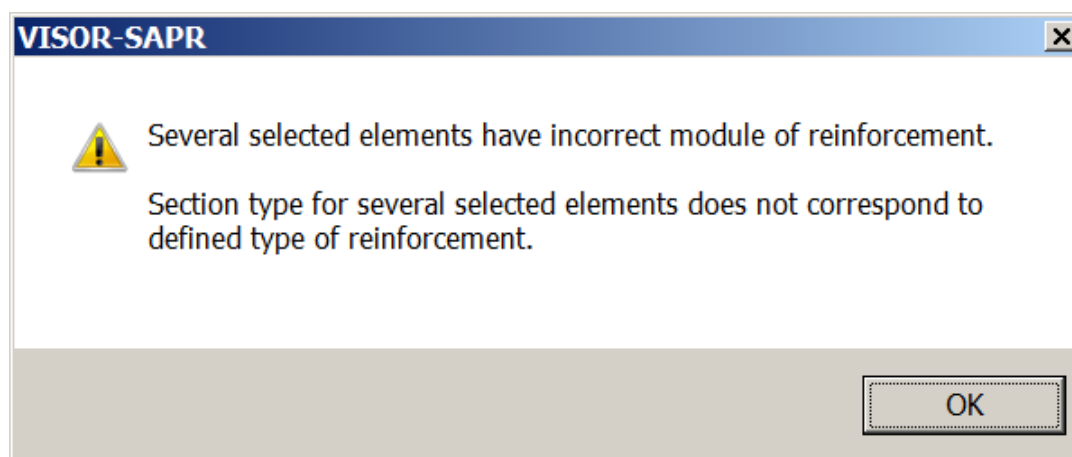

Figure 11.33 Warning dialog box
- ⇒ The **Warning** box is displayed (see Fig.11.33). Click **OK**.